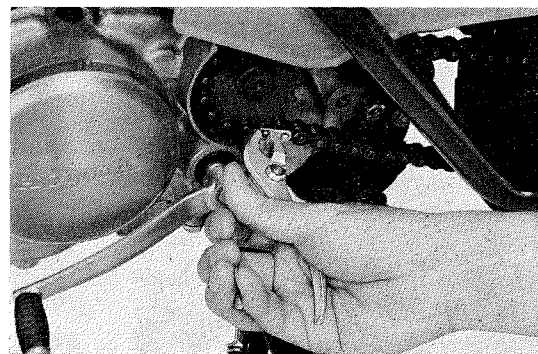

Fig. 69 Drive chain removal
3. Unfasten the drive chain link and disconnect the chain. (Fig. 69)